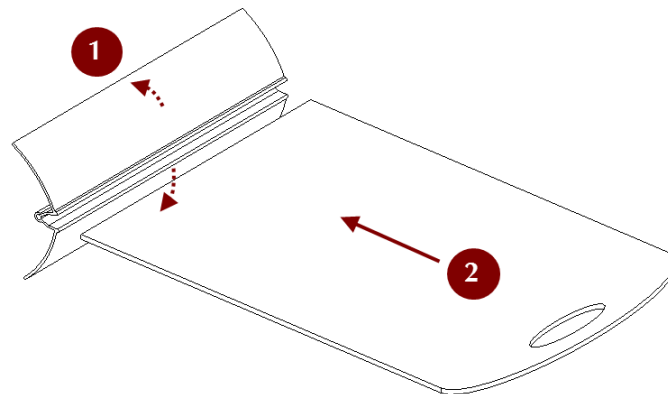

Figure 167: Assembling the rig.
3. Insert the board into the slot, as Figure 167 shows.